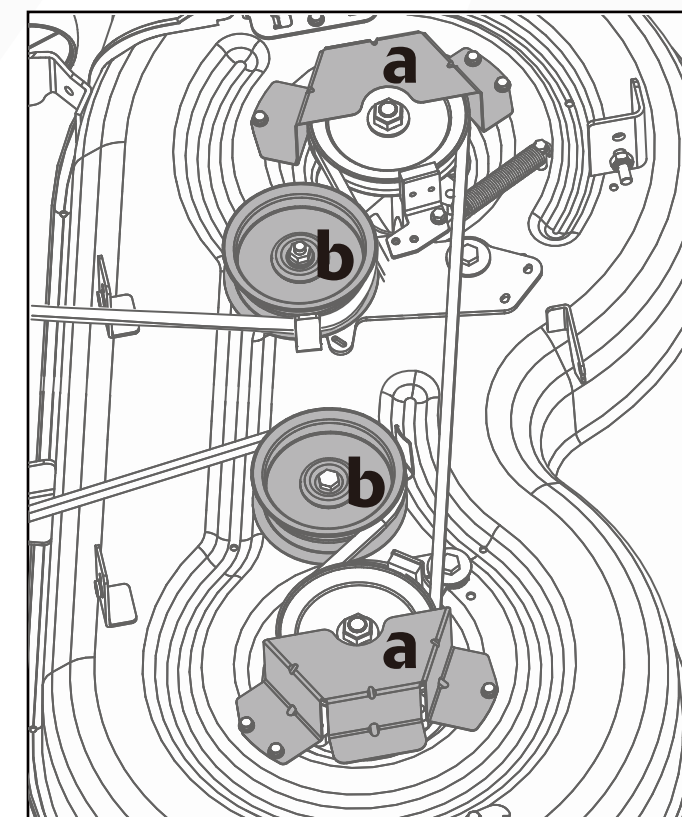

Fig. 26
2. Remove the two belt protective covers (a, Fig. 26) by removing the six screws that fasten them to the deck.
3. Remove the two pulleys (b, Fig. 26) by removing the bolts that fasten them to the deck.